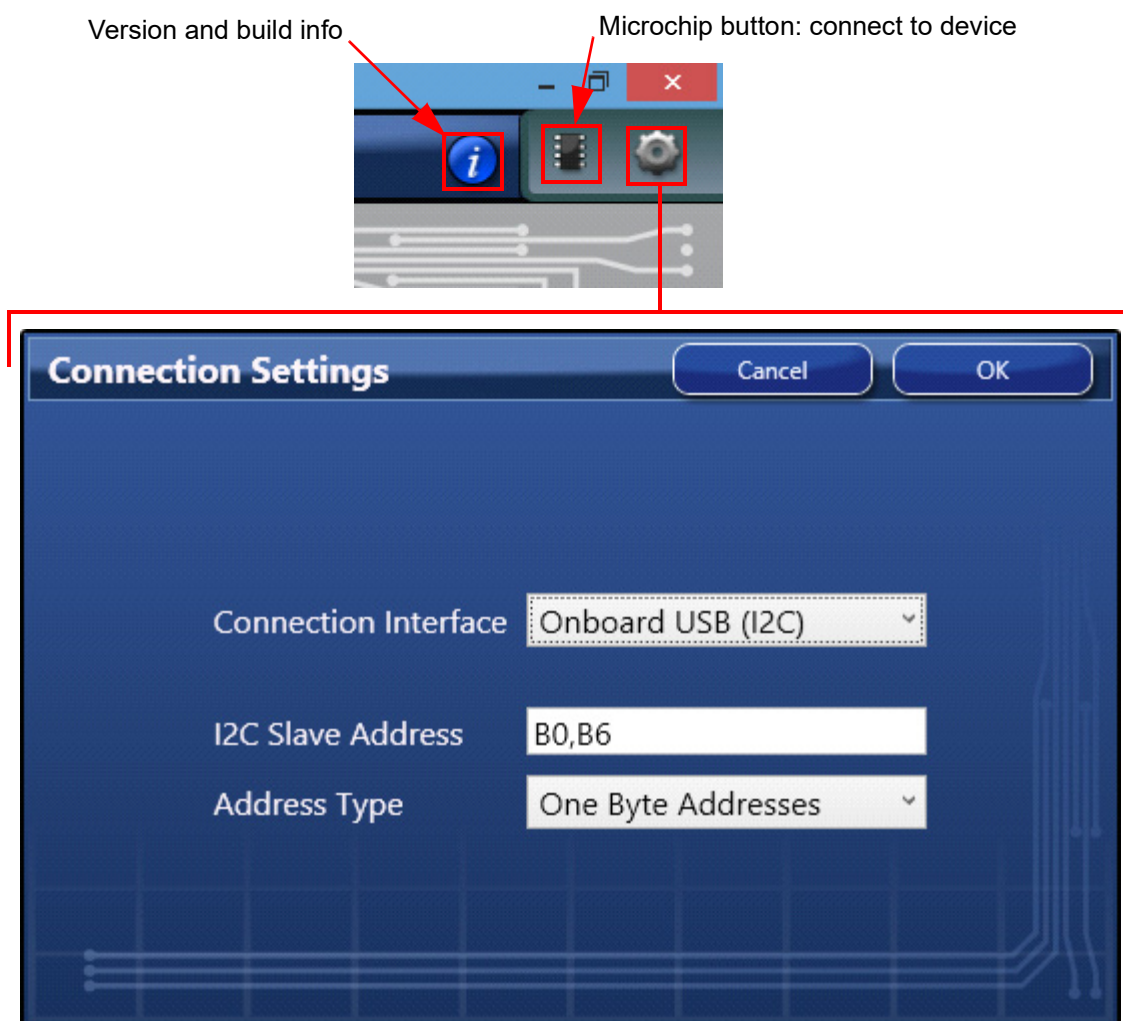

Figure 29. Connection Settings Window
- The device can be communicated via I2C or SPI (see Figure 29)
- The microchip button must be pushed to write or read from the device (see Figure 29)
- The “i” button gives version and build info of the GUI. It also outputs logging information (see Figure 29):